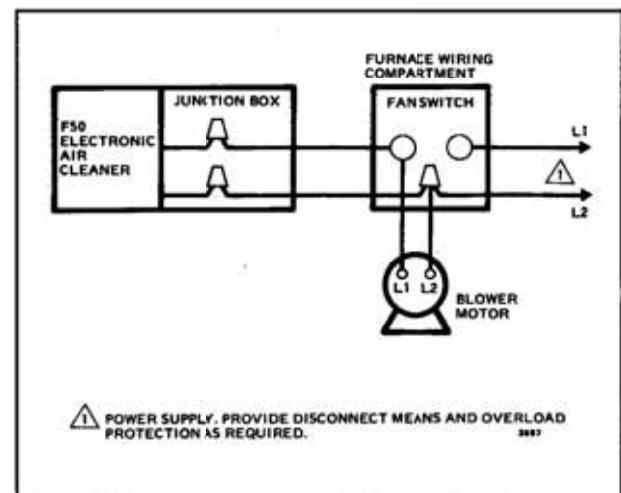

FIG. 23—F50A ELECTRONIC AIR CLEANER WIRED INTO THE SYSTEM FAN CIRCUIT.
1. If the system blower is driven by a single speed, single phase motor, it probably will be most convenient to wire the air cleaner into the fan circuit (Fig. 23). Select an air cleaner to match the supply voltage and frequency.